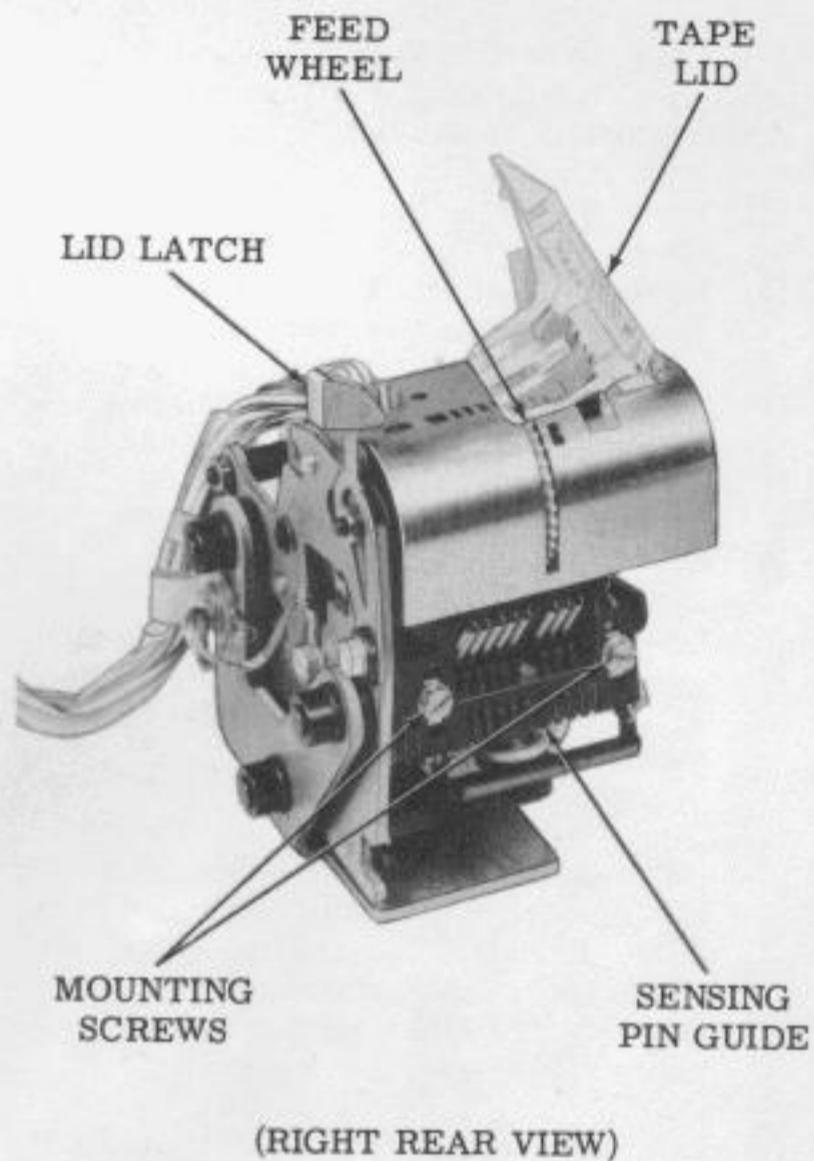

Figure 3 — Tape Reader (Without Cover)
- Note: Reference Figure 3.
- (1) Remove two TP151152 mounting screws, TP110743 lockwashers, and TP104807 flat washers which mount the TP183035 sensing pin guide.
- (2) Remove sensing pin assembly.
- (3) To replace sensing pin assembly, reverse procedure used to remove it.